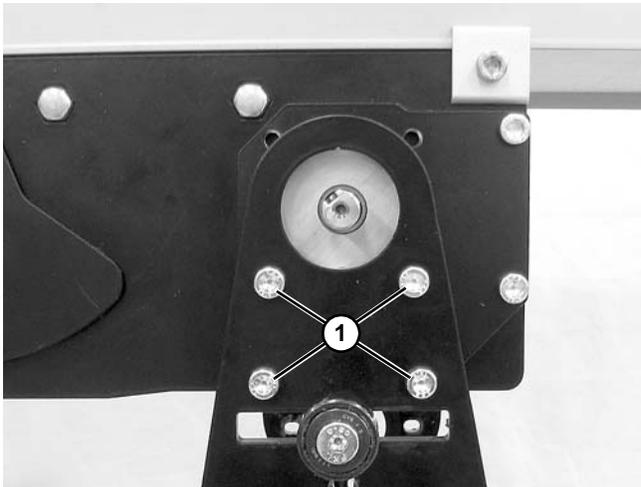

Figure 51
3. Remove four mounting screws (Figure 51, item 1) and remove gearmotor.